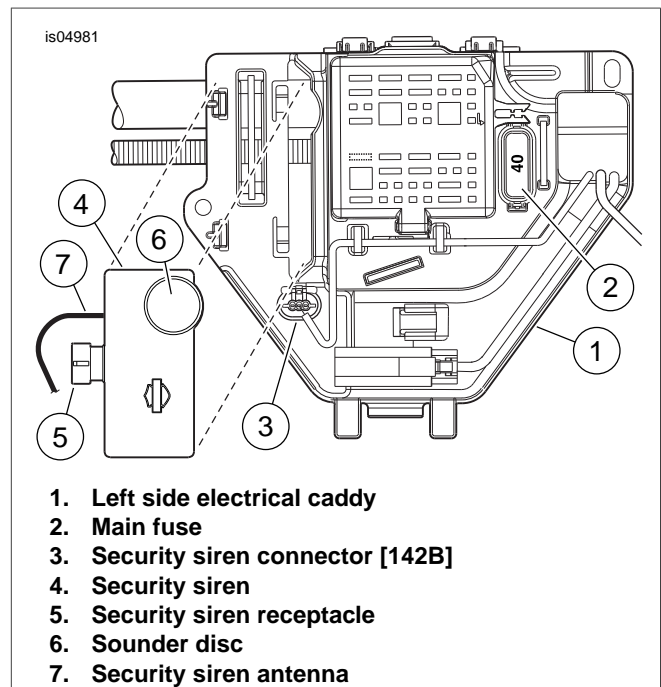

Figure 15. Siren Installation (2008-2013 FL Touring)
2. See Figure 15. Remove the security siren connector [142B] (3) from the retainer on the electrical caddy.